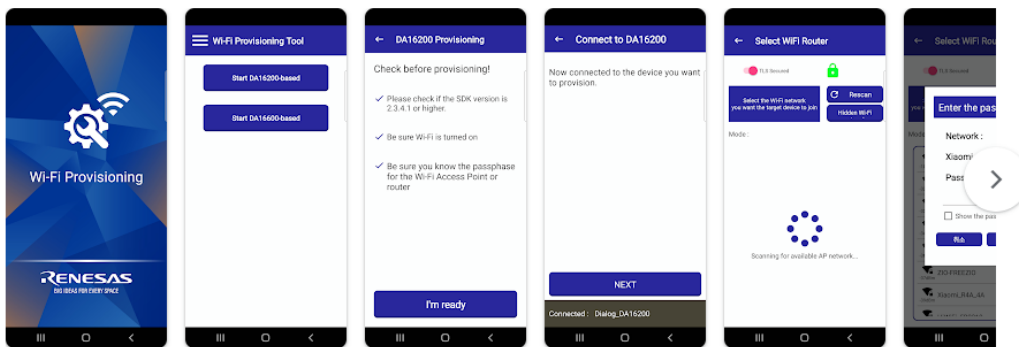

Figure 19: Renesas Wi-Fi Provisioning App
2. Run the Wi-Fi provisioning App shown in Figure 19, which is available in the Google Play Store or iOS App Store.